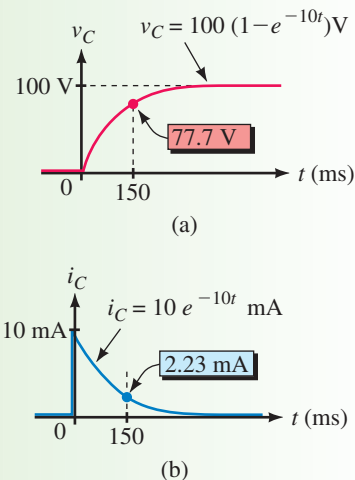

FIGURE 11-10 The computed points plotted on the v_C and i_C curves.
- The corresponding points are shown in Figure 11-10.
1. Determine additional voltage and current points for Figure 11-10 by computing values of v_C and i_C at values of time from $t = 0$ s to $t = 500$ ms at 100-ms intervals. Plot the results.